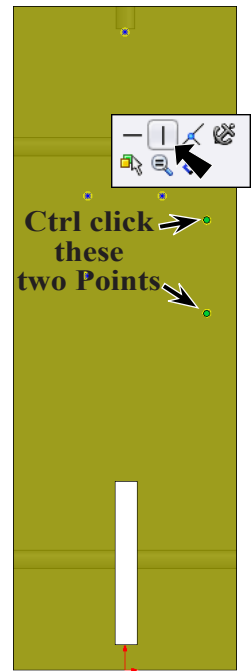

Fig. 35
Step 8. **Ctrl click the two Points on left** to select both, **Fig. 35**. **Release Ctrl key** and click **Make Vertical**  on the Content menu.